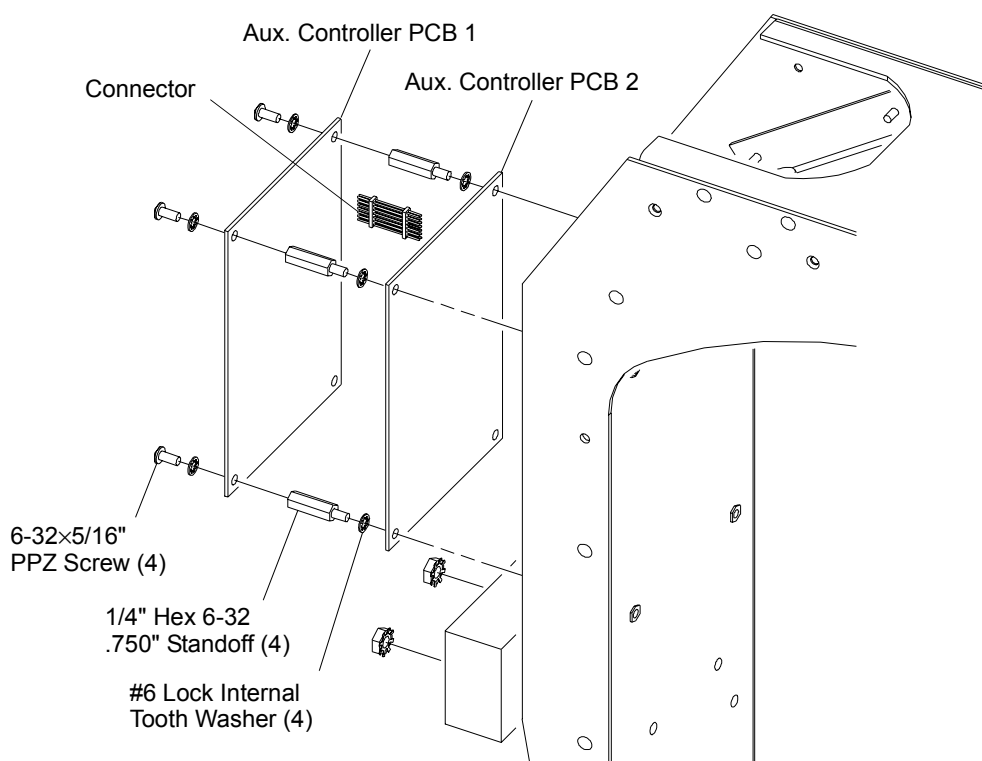

Figure 2-11: Auxiliary PCB Replacement
- Step 3. To remove first Auxiliary Controller PCB, remove four 6-32×5/16" PPZ screws and washers. **Figure 2-11.**